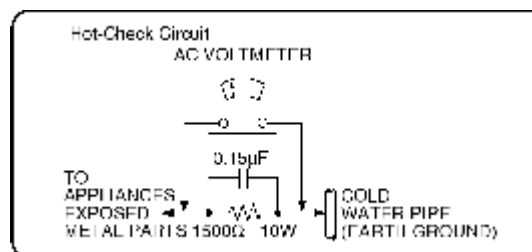

Figure 1
2.3. LEAKAGE CURRENT HOT CHECK (See Figure 1.)
2. Connect a $1.5\text{k } \Omega$, 10 W resistor, in parallel with a 0.15μ capacitor, between each exposed metallic part on the set and a good earth ground such as a water pipe, as shown in Figure 1.